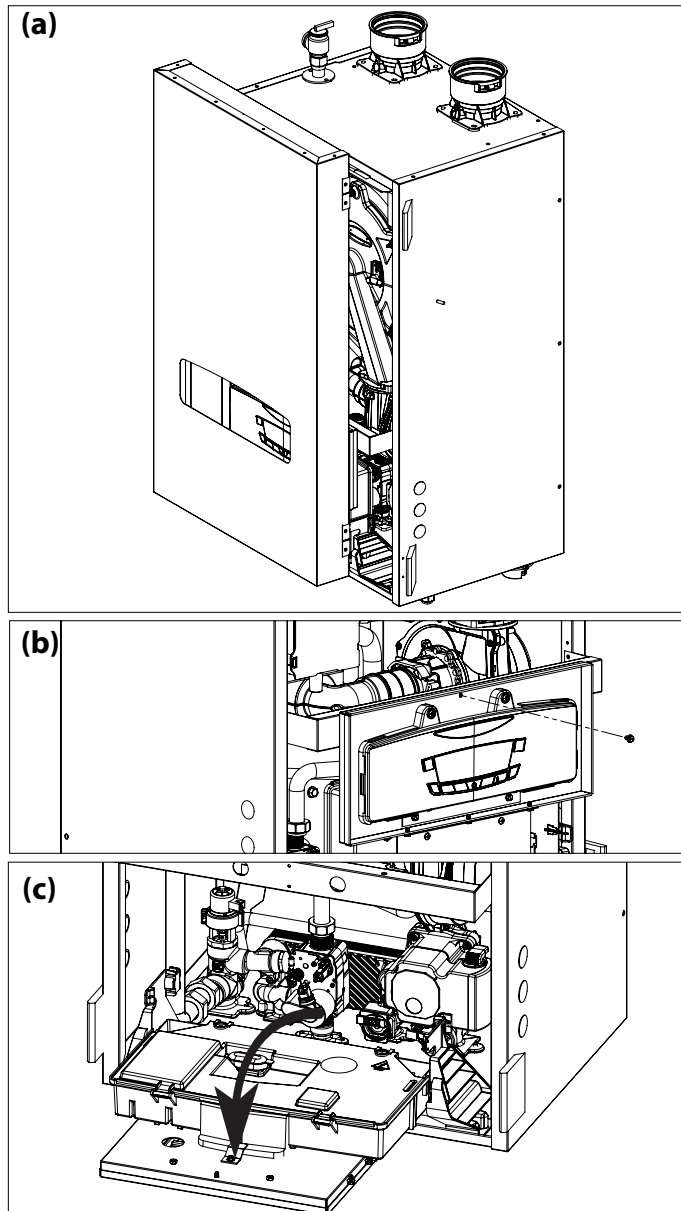

Figure 77 - Removing the Cover and Control Panel Housing
See Figure 77 to access the interior of the boiler:
3. Remove the front panel as shown in Figure 77.